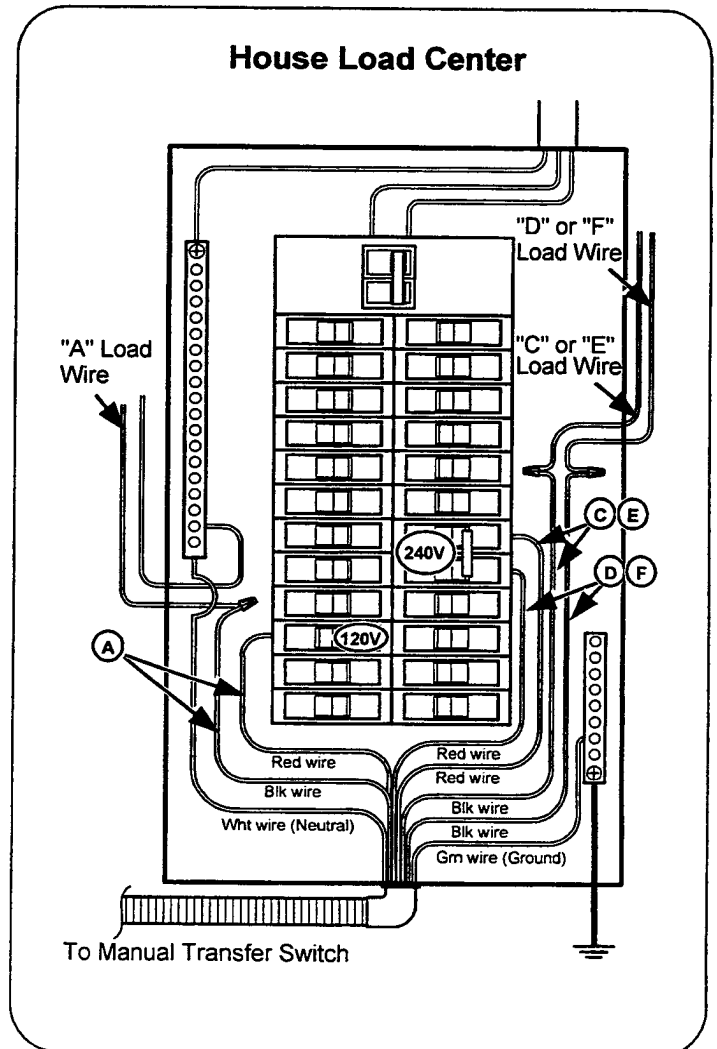

Figure 7. Load Center Wiring (Typical)
6. Install the ground (Grn) wire into the load center ground terminal strip. Refer to Figure 7.
NOTE: Figure 7 shows a typical house load center. The neutral and ground terminal strips may be separate, tied together, or there may be only one terminal strip. Follow local
2. Place the load center circuit breaker for that circuit to the OFF position. Disconnect the "A" load wire from that circuit breaker. Refer to Figure 7.
1. Turn the load center 240V circuit breakers (two ganged 120V circuit breakers typically) for the selected circuit to the OFF position. Disconnect the house load wires from the circuit breakers. Refer to Figure 7.
2. Locate the "C" and "D" Black and "C" and "D" Red wires from the manual transfer switch. Route the two "C" and two "D" wires to the circuit breakers for the selected 240V circuit. Refer to Figure 7.
2. Locate the "E" and "F" Black and "E" and "F" Red wires from the manual transfer switch. Route the two "E" and two "F" wires to the circuit breakers for the selected 240V circuit. Refer to Figure 7.